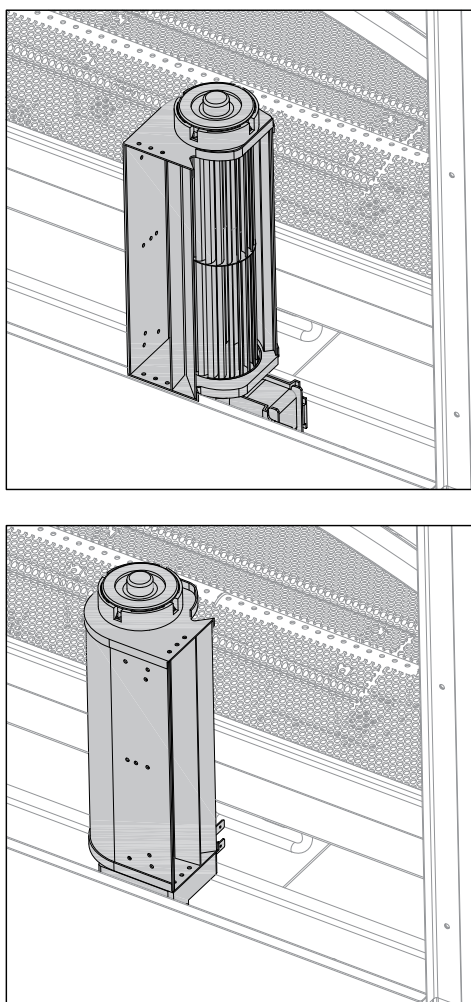

FIGURE 9.2 Steps 3 and 4
3. With the motor end of the fan's right side facing down and to the right, insert fan into chamber (FIGURE 9.2).
4. When the motor end clears the fireplace face, turn the fan to the left (FIGURE 9.2).